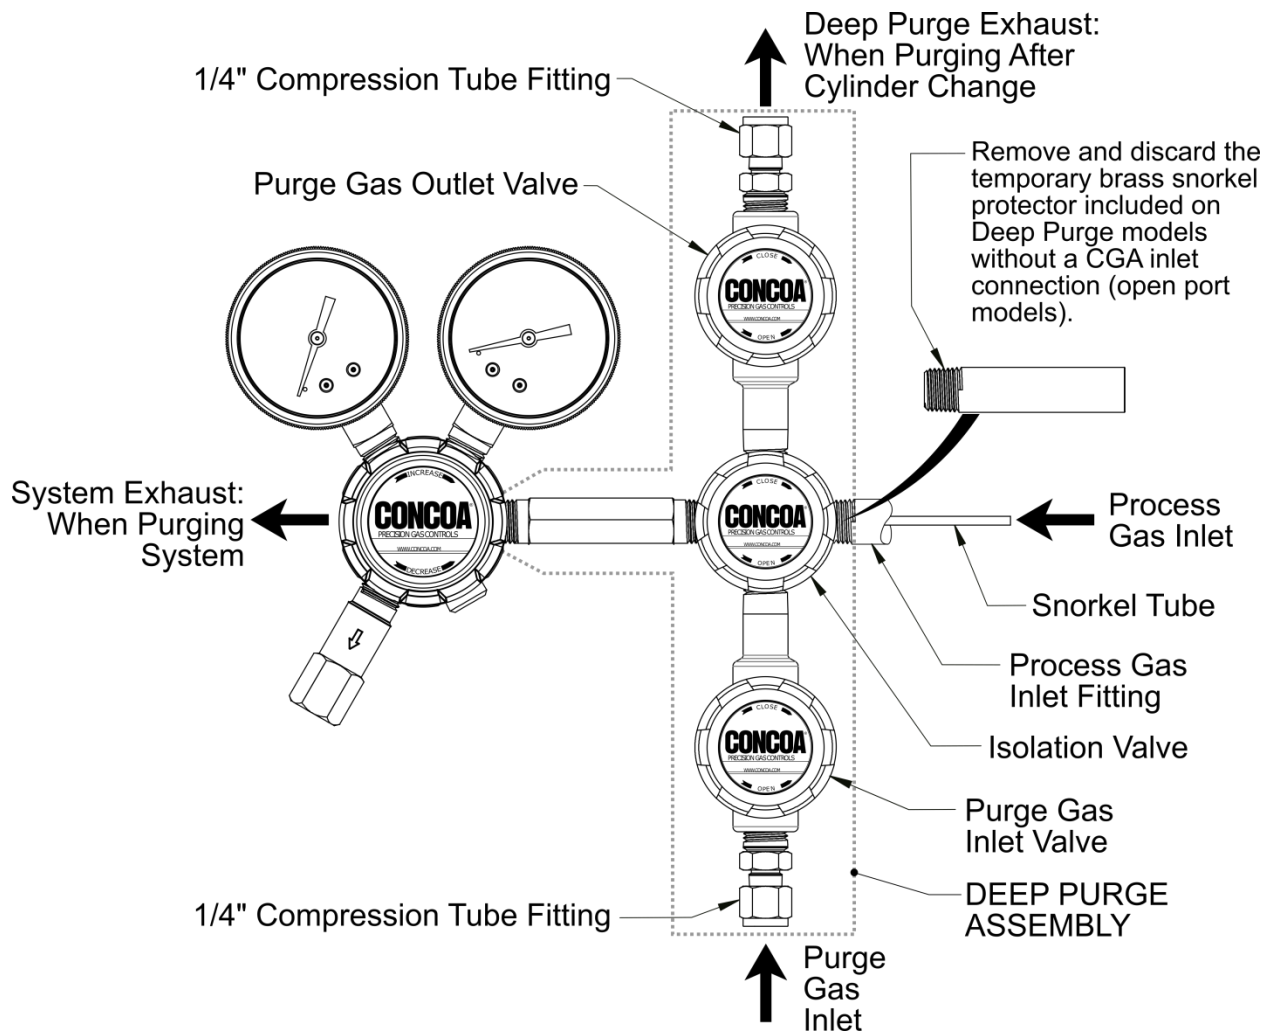
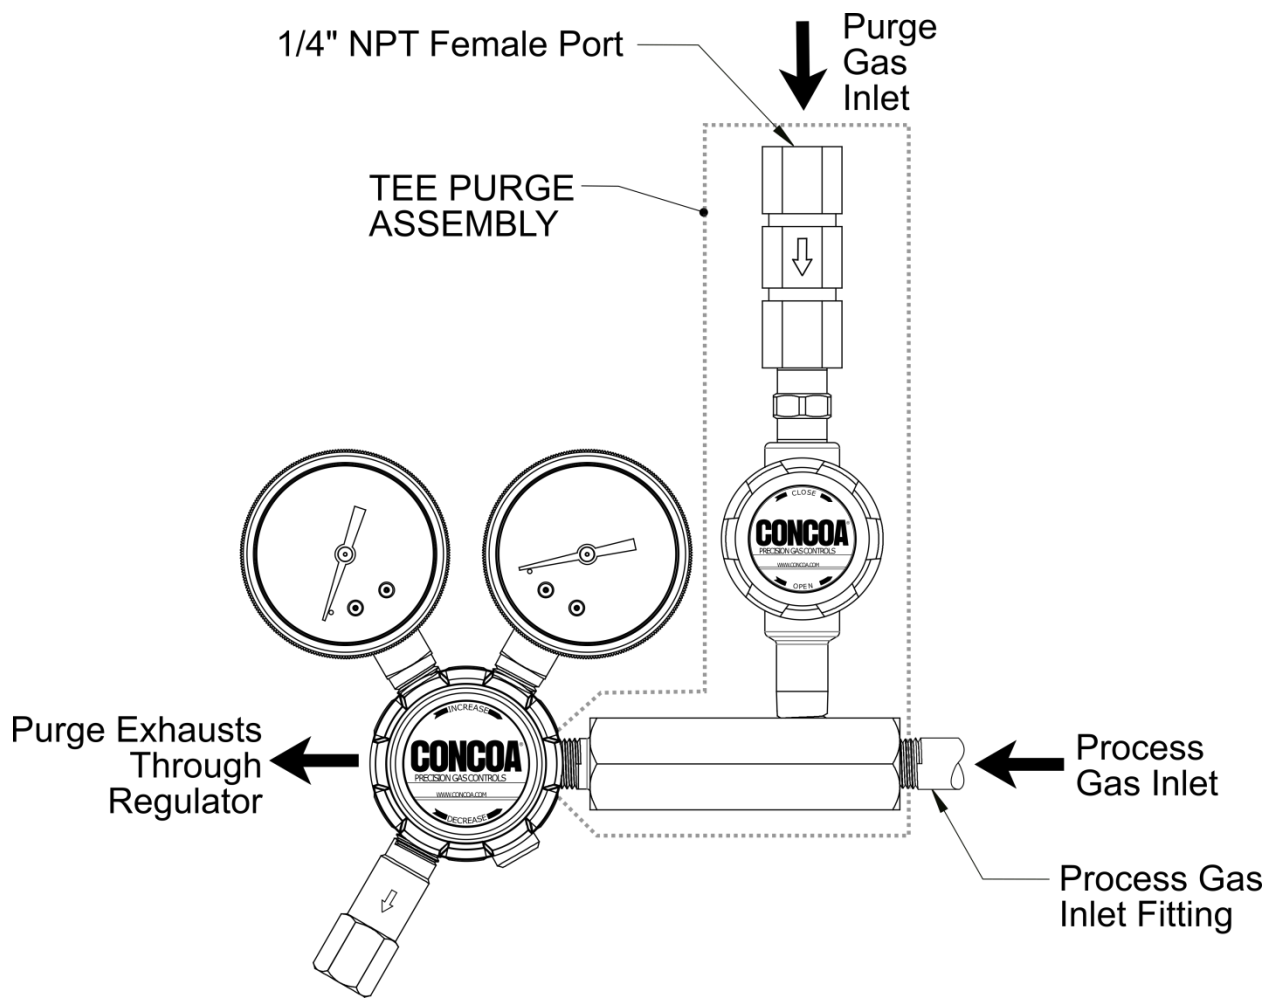

Figure 2. CONCOA Deep Purge
Figure 3. CONCOA Tee Purge
1. Deep Purge (see Fig. 2): If necessary, remove the regulator's process gas inlet fitting*, and carefully remove the temporary brass snorkel protector from the purge. Install the process gas inlet fitting into the purge's 1/4" NPT female inlet port with snorkel tube. Do not damage the snorkel tube when installing the connection. Note: Inlet glands with an integral check valve are not compatible with the snorkel tube. For these glands, remove the snorkel tube.
Tee Purge (see Fig. 3): If necessary, remove the regulator's process gas inlet fitting*. Install the process gas inlet fitting into the purge's 1/4" NPT female inlet port.
2. Install the Deep Purge or Tee Purge into the regulator's 1/4" NPT female inlet port (marked HP or HI) as shown in Fig.2 and Fig. 3.
3. Deep Purge (see Fig. 2): The purge gas inlet is located on the bottom of the Deep Purge. It is a stainless steel 1/4" compression tube fitting. Using 1/4" tubing, connect the Deep Purge process gas inlet to a purge gas regulator (a brass 402 Series or stainless steel 422 Series regulator is recommended). The Deep Purge exhaust is located on the top of the Deep Purge. It is a stainless steel 1/4" compression tube fitting. Pipe the Deep Purge exhaust to a safe discharge area.
Tee Purge (see Fig. 3): The purge gas inlet is located on the top of the Tee Purge. It is a 1/4" NPT female port. Connect the Tee Purge to your purge gas regulator or flowmeter (customer must provide an appropriate fitting).
Cylinder Change Positive Displacement Purging with the Deep Purge (see Fig. 2):
Complete System Positive Displacement Purging with the Deep Purge (see Fig. 2):